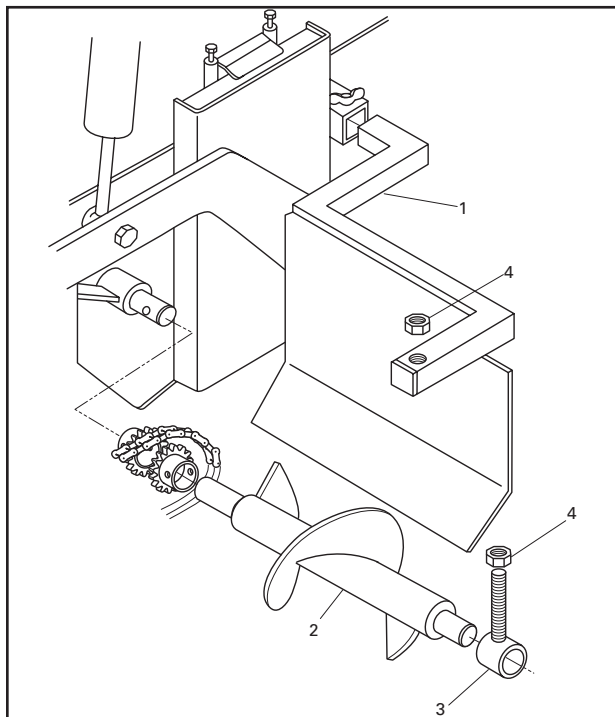

FIGURE 3-15. AUGER EXTENSIONS
1. Identify the right and left auger extensions by observing the L (left) or R (right) on the end of the auger extension shaft (see Figure 3-15.)
6. Secure end of extension auger (Figure 3-15, item 2) to main auger.
7. Install guard (item 1). Make sure extension auger is running flat. If not, adjust with two hex nuts (item 4).
8. Grease at end cap (item 3).